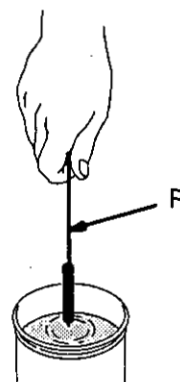

Fig. 21
4. Soak the air cap, detent plate and fluid nozzle in solvent. Clean the air cap and fluid nozzle daily, minimum, with solvent and the brush (R), provided. See Fig. 21. Some applications require more frequent cleaning. Keep all air cap holes clean.